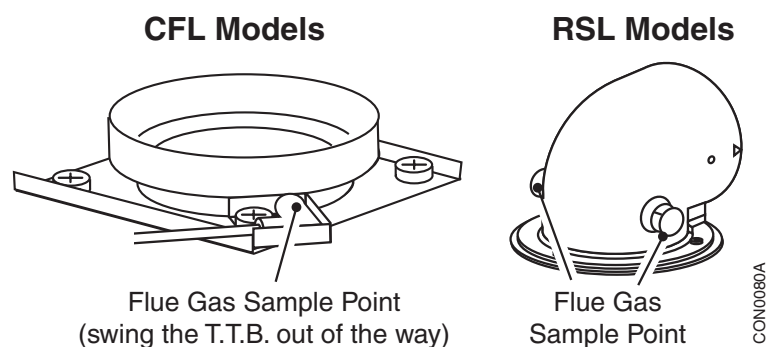

Fig. 24
- 5 Re-fit the front cover, plinth, top cover and controls panel (see Fig. 24, page 26).